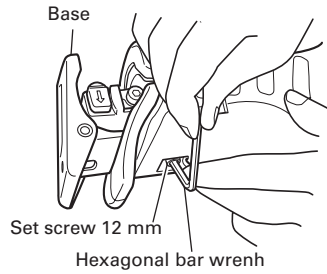
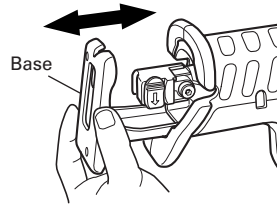

Fig. 12
Fig. 13
(2) If a base setting screw is loosened with an attached hexagonal bar wrench, you can adjust a base installing position. (Fig. 12, Fig. 13)